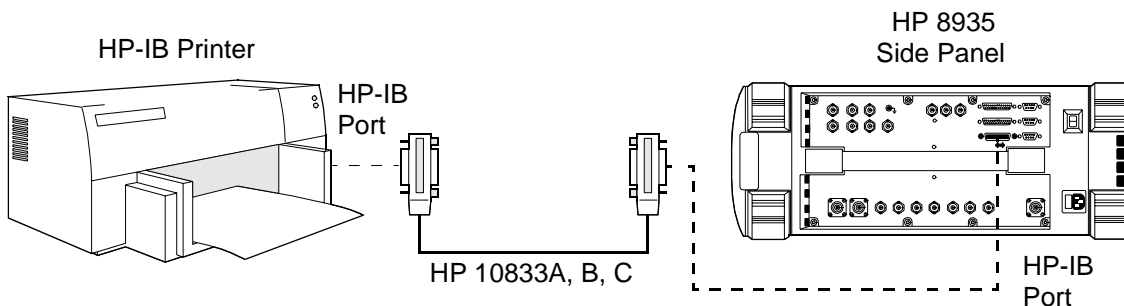

Figure 31 Test Set to an HP-IB Printer Connection
6. Connect your HP-IB printer to the Test Set's HP-IB port (see figure 31).